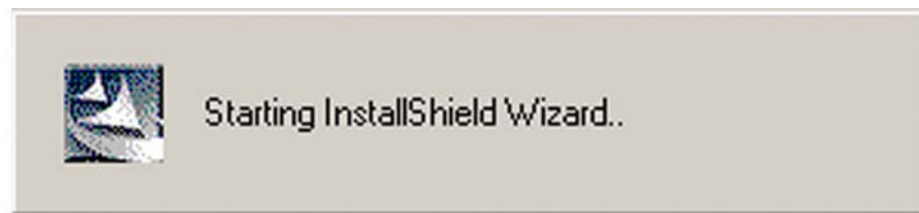

Figure 6-6: Audio Driver Install Shield Wizard Starting
- Step 2:** Once double clicking the **Setup** icon, the install shield wizard for the audio driver starts. See **Figure 6-6**.